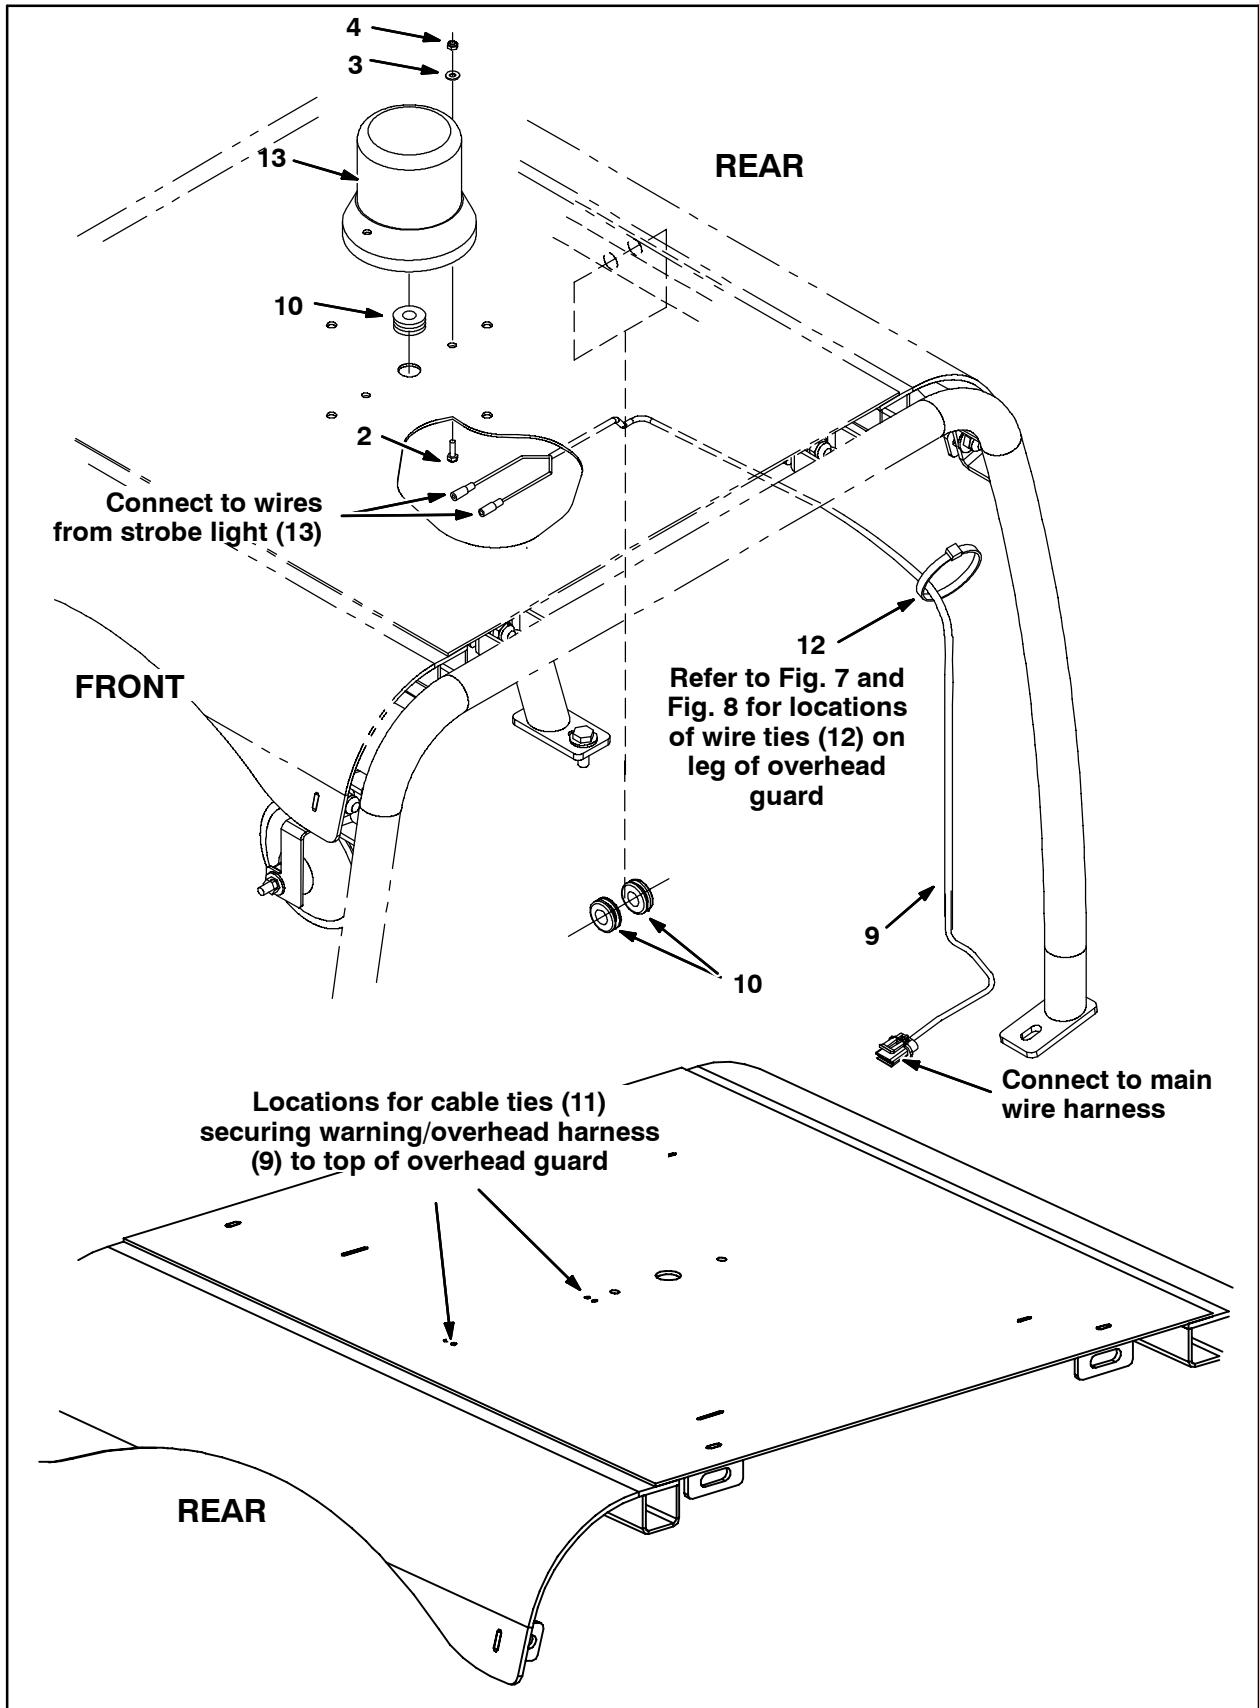

FIG. 12
9. Use two cable ties (11) to secure the warning/overhead harness (9) to the top of the overhead guard. Refer to Fig. 12.